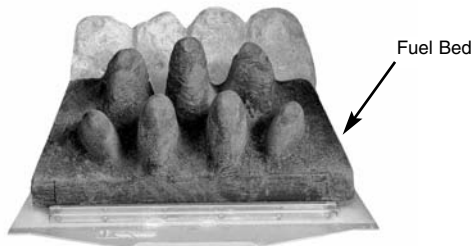

Fig. 26
2. Place the main fuel bed on to the middle section of the metal burner tray. It is important that the front edge of the fuel bed is located behind the burner strip (Fig. 26).